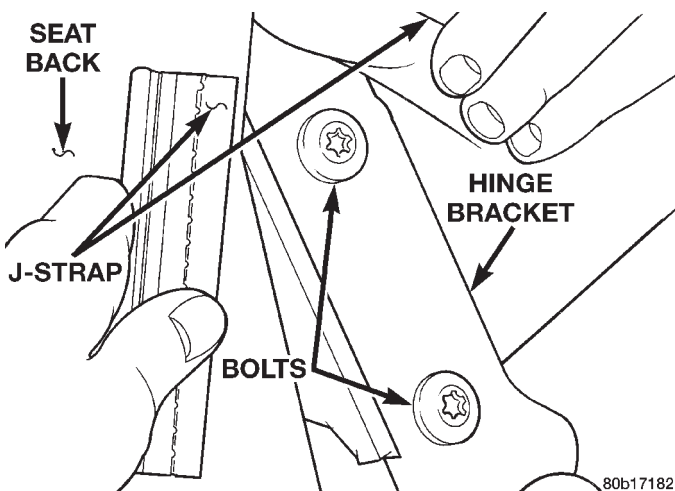

Fig. 7 2nd Row Seat Back J-Straps
- (4) Disengage J-straps to access inboard and outboard bolts attaching seat back to hinge (Fig. 7).
- (5) Remove bolts attaching hinge to seat back.
- (6) Separate seat back from vehicle.